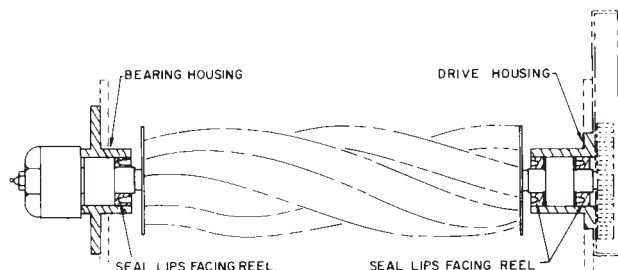

Figure 32
2. Assemble the outer seal (lip facing in to retain grease) into the drive housing using Loctite 242 retaining compound on the outer diameter. Apply a light coat of oil to the seal lips and insert the bearing assembly through the seal from the opposite side (Fig. 32).
3. Apply a light coating of oil to the inner seal lips and install (lip facing away from the bearing and toward the reel) in the housing. Install the retaining ring to secure the assembly in the housing (Fig. 32).
4. Apply a light coat of oil to the seal lips of the seal for the bearing housing and install (lip facing away from the bearing) over the bearing assembly (Fig. 32).